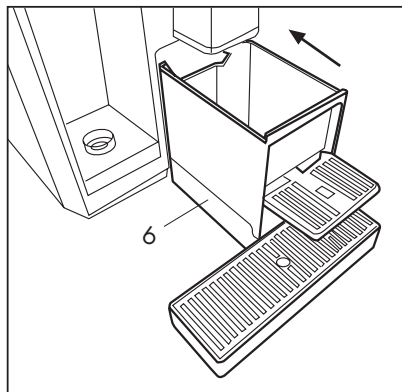

Fig. 17
- It is advisable to empty the capsule container regularly to ensure that they do not get stuck. Take out the capsule container (6), empty it and rinse it (Fig. 16). Clean the drip tray and the grid to remove residue of water and coffee. Once clean, replace the drip tray with the capsule container (Fig. 17).